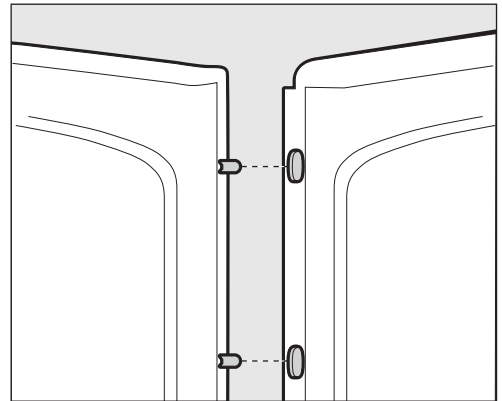

FIGURE 3. Align pins with slots on back wall.
- Fit the side panels by aligning pins on side panels with slots on back panel. (Fig. 3)